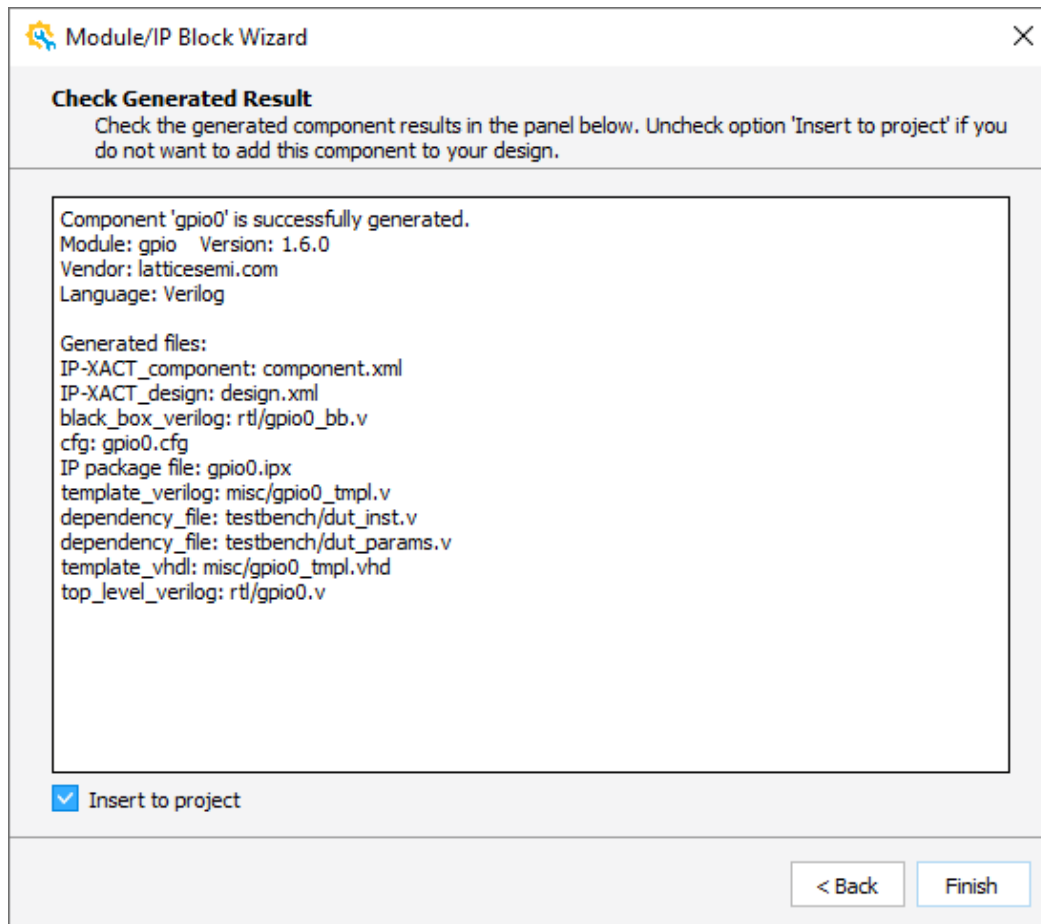
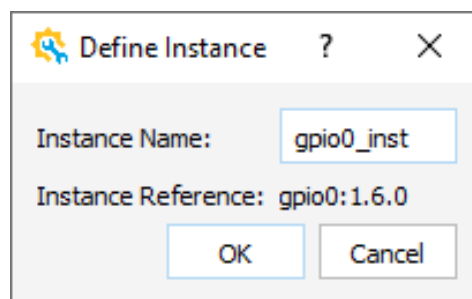

Figure 2.45. Module/IP Block Wizard – Check Generated Result
Figure 2.46. Design Instance Dialog Box
- Click **Generate**. Module/IP Block wizard shows the Check Generated Result page (Figure 2.45).
- Select **Insert to project** (Figure 2.45) at the bottom of the Check Generate Result wizard, so that a **Define Instance** dialog box pops up as shown in next step. Or, this dialog box does not appear.
- After selecting **Insert to project**, click **Finish** (Figure 2.45). The **Define Instance** dialog box opens (Figure 2.46).